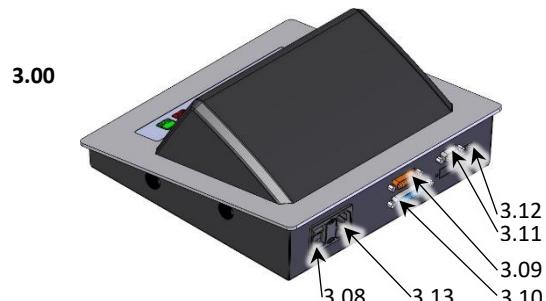

Fig. 4 Electronic unit rear
- Switch on the electronics unit with the power switch (3.08, Fig. 4, page 4).